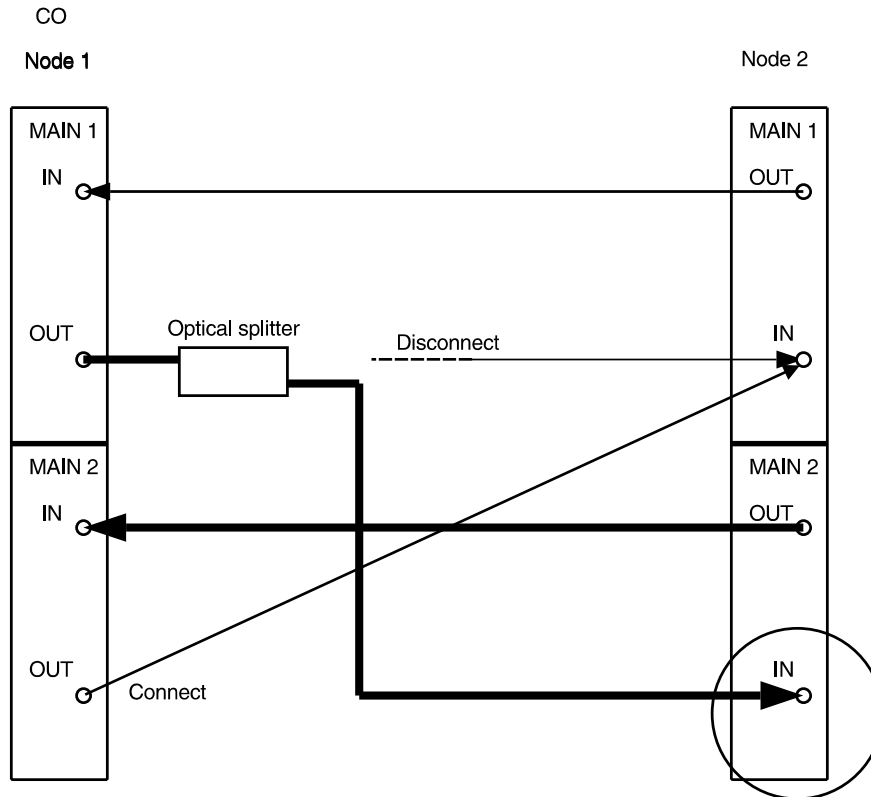

Figure 6 – DDM-2000 OC-3 Point-to-Point to Ring Upgrade
16. Disconnect the fiber from the optical splitter output going to Node 2 **MAIN 1 IN**. Connect the fiber from Node 2 **MAIN 1 IN** to Node 1 **MAIN 2(P) OUT**. (See Figure 6.)